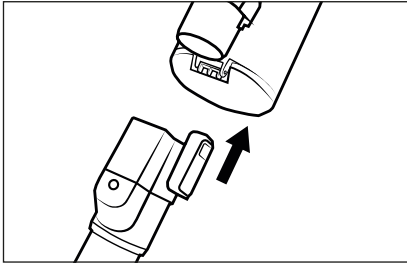

Fig. 1
- 1) Push the suction pipe **23** onto the appliance until it audibly clicks into place (see Fig. 1).